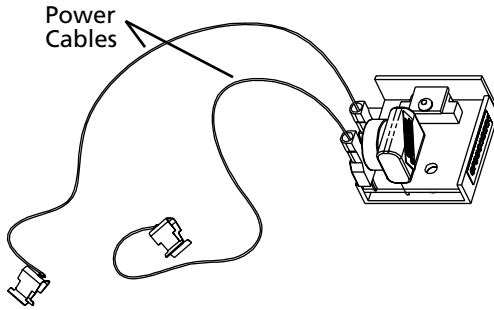

Figure 36. Attaching Power Cables to WOPI
5. Attach the power cables to the WOPI. See Figure 36.